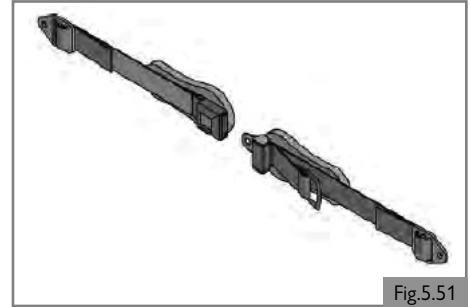

Fig.5.51
**5.13 Lap belt / seating positioning belt (Fig. 5.51)****⚠ DANGER!**